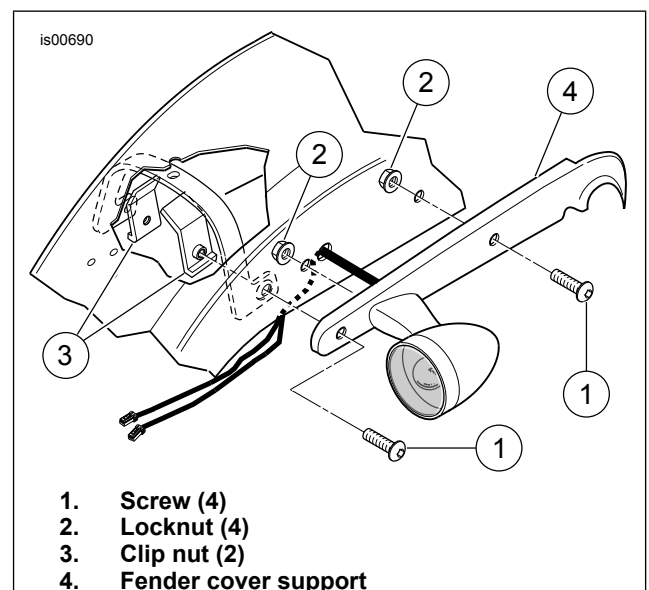

Figure 1. Rear Fender Support Removal
4. See Figure 1. Remove and discard front and rear button head screws (1), two locknuts (2) and under fender clip nuts (3) from the left and right rear fender support covers (4).